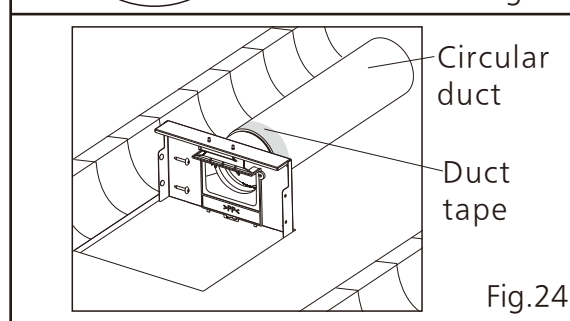

Fig.24
- (2) Using 2 of the ST4.2X30 tapping screws provided in the accessory package to fix the hanger unit to the joist.(Fig.24)
- 4.Slip the circular duct onto the adaptor and secure it with duct tape.(Fig.24)